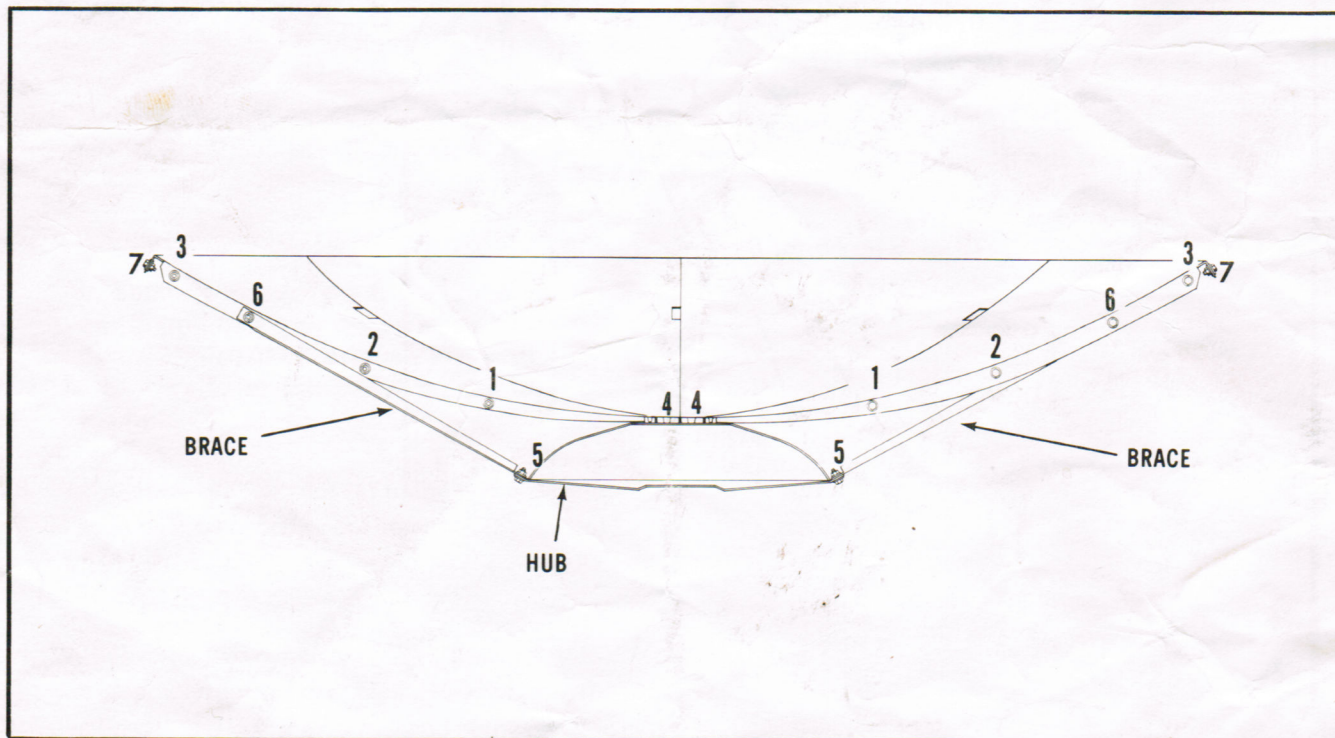

Figure 4. Cross Section View of Reflector
## STEP-BY-STEP BOLT TIGHTENING INSTRUCTIONS FOR FIGURE 4
Each panel and brace is secured by hardware at the seven locations identified in figure 4. To assure optimum shape of the reflector, each panel and brace should be tightened in the sequence described below.
1. Starting at any panel, tighten each of the bolts at location 1 in figure 4, working from panel to panel around the dish.